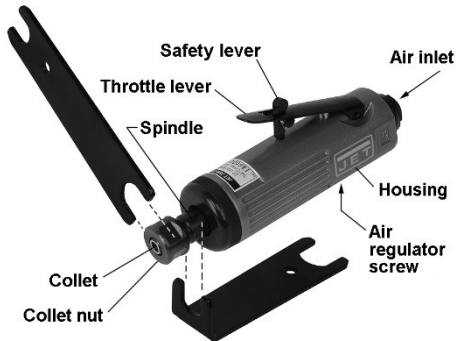

Figure 1 (JET-401 shown)
1. Loosen collet nut using the two wrenches on the flats of the collet nut and spindle (Figure 1). Keep wrench on spindle stationary while turning wrench on collet nut.
3. Remove protective cap from air inlet (Figure 1). If an in-line oiler is not being used, add 4 or 5 drops of air tool oil (not included) into the air inlet.